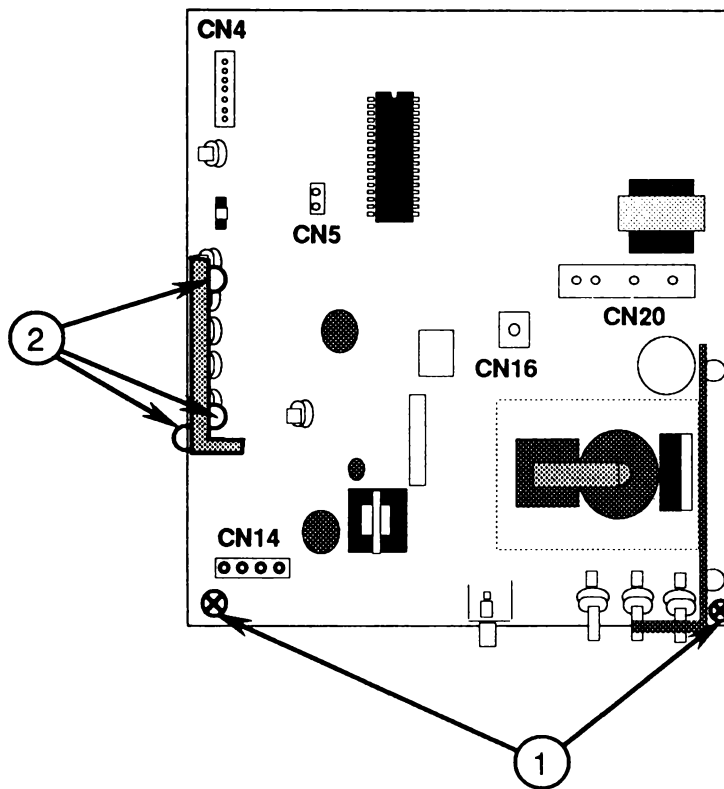

FIGURE 32
2. Replace the two screws (Figure 32, #1) at the rear corners of the main logic PCB.
4. Replace the three mounting screws (Figure 32, #2) that secure the power supply board bracket to the logic board frame.